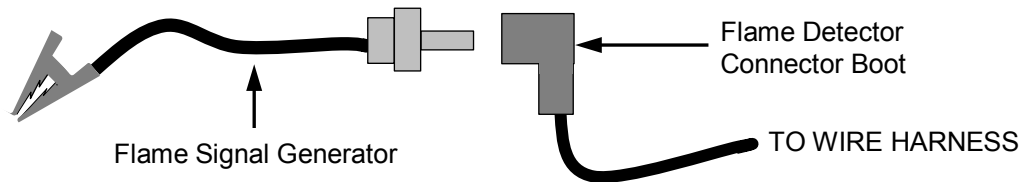

Figure 6.3a: Connecting the Flame Signal Generator
- (b) Push the **BACK** button three (3) times to return to the upper level menu.
- (c) When the Controller gets into the ignition phase, the Control Panel will show **IGNITION TRIAL**. At that point attach the alligator clip (see Figure 6.3a) to any bare metal surface or ground. The C-More display should now show **FLAME PROVEN** and begin to ramp up to 100% fire rate. Note that no gas or flame is present in the boiler at this time.